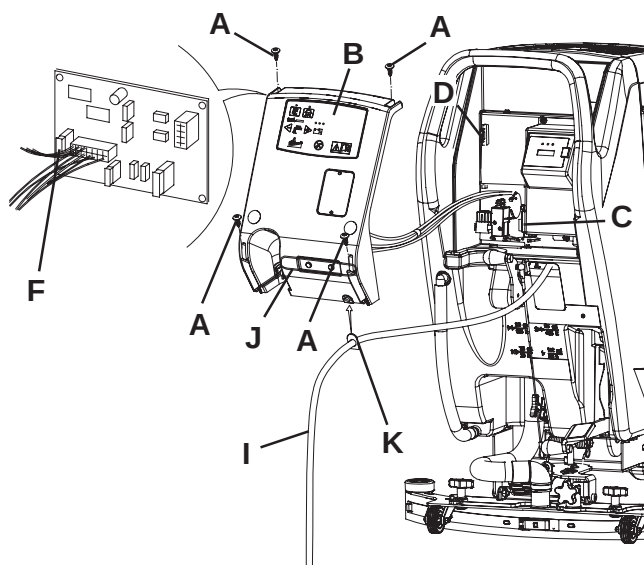

Figure 6
1. Disconnect the battery connector (12).
2. Move aside the recovery water drain hose (16).
3. Remove the battery charger cable (I, Fig. 6) from the holder (J).
4. Remove the screws (A) and carefully move aside the panel (B) by disengaging the grommet (K) from its housing on the panel (B).
- (C) F1 fuse, deck: (40 A)
- (D) F2 fuse, vacuum system: (30 A)
- (E) F4 fuse, signal circuits: (3 A)